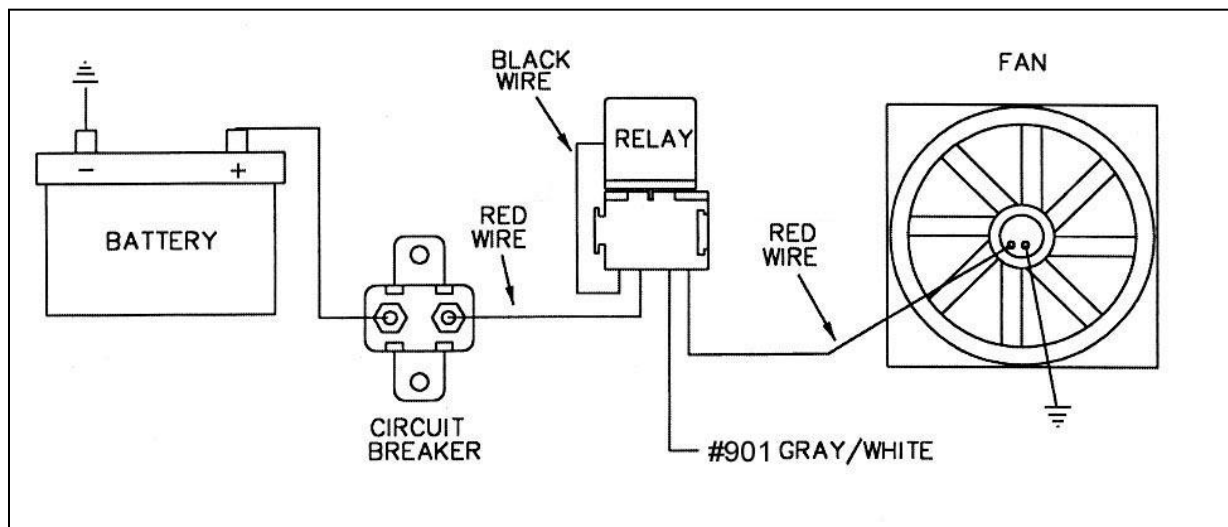

Figure 8.3 Typical Fan Relay Installation (**Painless part #30101 Fan Relay Kit**)
- 8.2.4** Connect HEADLIGHT SECTION A wire #901 (gry/wht) to the Electric Fan Relay. This wire is an activation wire for the relay, **NOT A POWER FEED**. See **Figure 8.3**, an illustration of a typical fan relay installation. The gry/wht wire #906 of ACCESSORY SECTION B+ and gry/wht wire #901 of ACCESSORY SECTION SWITCHES connect to the electric fan switch in the dash.
Note: *The wire going to the fan in Figure 8.3 will be coming from the fan relay output terminal. The gry/wht wire #901 from the ACCESSORY SECTION SWITCHES is an activation wire for the fan relay.*